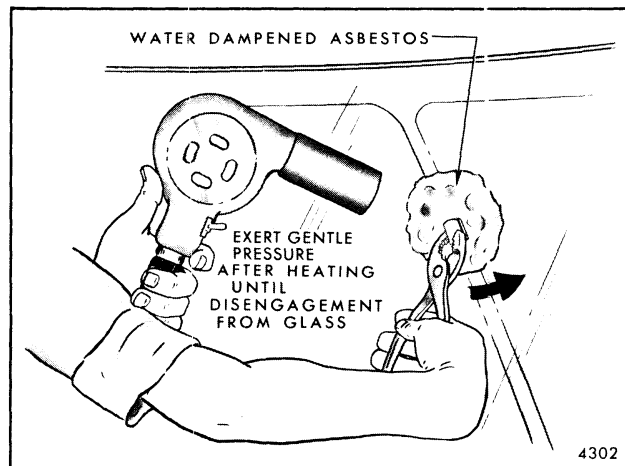

Fig. 1-19-Removal of Bonded Rear View Mirror Support From Glass
3. From inside of glass, heat mirror support with an air blower type heat gun to 250 to 350 degrees; then, carefully exert gentle sideward pressure on support with pliers until it disengages from glass, as shown in Figure 1-19.